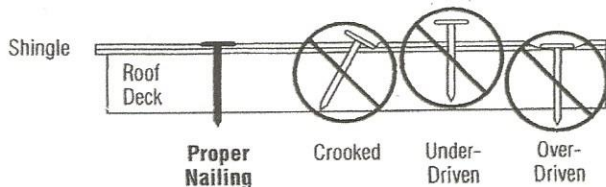

Figure 8-1: Fastening three-tab, strip-type shingles.
- ◆ Be sure fasteners are driven straight, with nail heads flush with the shingle surface and never cutting into the shingle (*Figure 8-1*).